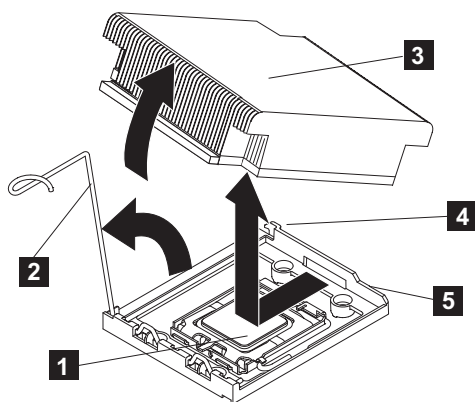

Figure 248. Removing the heat sink from the SAN Volume Controller 2145-CG8 or 2145-CF8 microprocessor
8. Disconnect any cables that impede access to the heat sink (**3** in Figure 248) and the microprocessor (**1**).